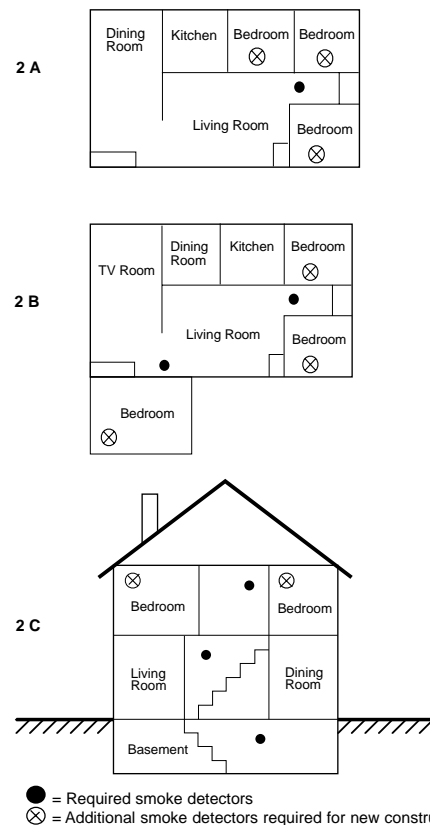

Figure 2. Detector placement
**A-8-1.2.1.a Where to Locate the Required Smoke Detectors in Existing Construction.** The major threat from fire in a family living unit occurs at night when everyone is asleep. The principal threat to persons in sleeping areas comes from fires in the remainder of the unit. Therefore, a smoke detector(s) is best located between the bedroom areas and the rest of the unit. In units with only one bedroom area on one floor, the smoke detector(s) should be located as shown in Figure 2 A.
In family living units with more than one bedroom area or with bedrooms on more than one floor, more than one smoke detector is required, as shown in Figure 2 B.
In addition to smoke detectors outside of the sleeping areas, the installation of a smoke detector on each additional story of the family living unit, including the basement, is required. These installations are shown in Figure 2 C. The living area smoke detector should be installed in the living room or near the stairway to the upper level, or in both locations. The basement smoke detector should be installed in close proximity to the stairway leading to the floor above. Where installed on an open-joisted ceiling, the detector should be placed on the bottom of the joists. The detector should be positioned relative to the stairway to intercept smoke coming from a fire in the basement before the smoke enters the stairway.